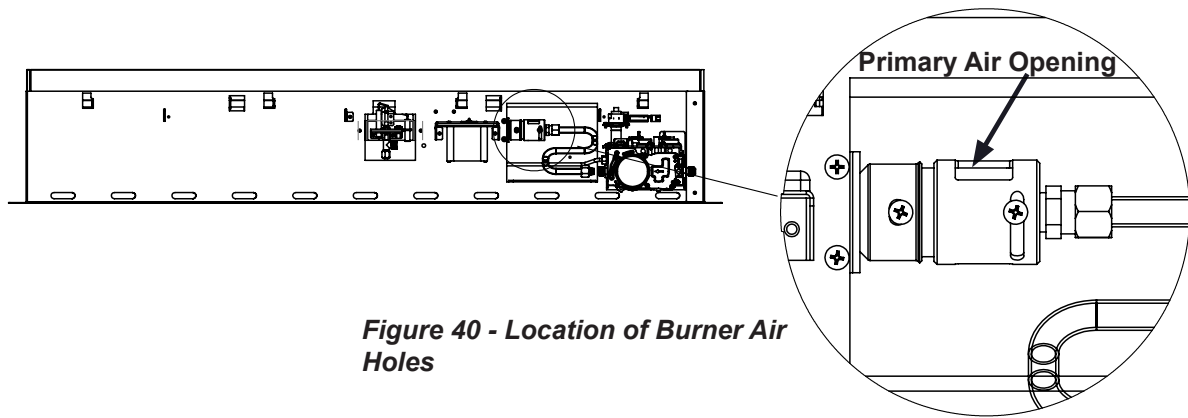

Figure 40 - Location of Burner Air Holes
2. Inspect burner, pilot and primary air inlet holes on injector for dust and dirt (see Figure 40, page 25).